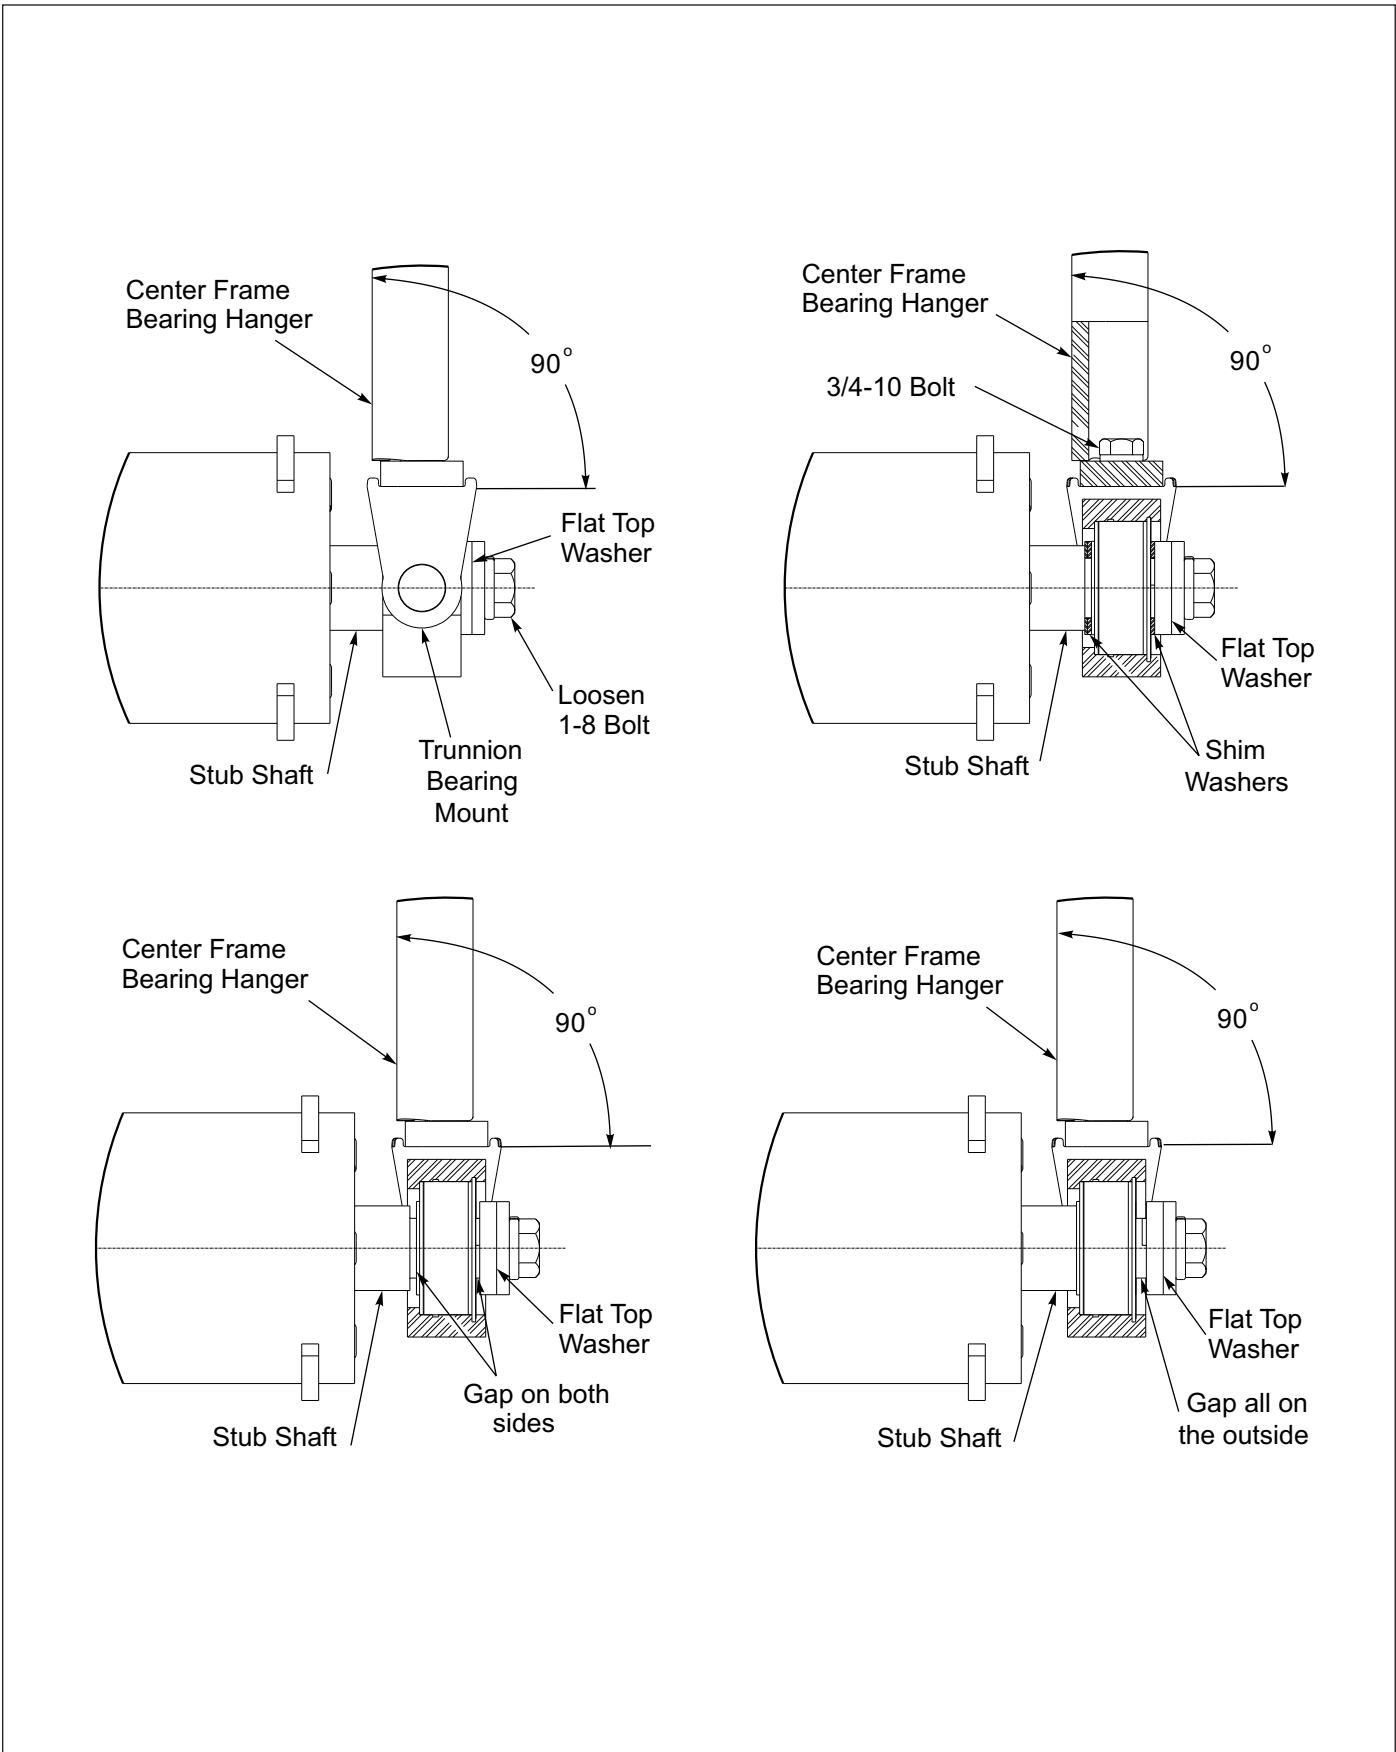

Figure 2-17: Trunnion Spacers
bearing around to have snap ring to inside. The bearing inner race is offset with respect to the trunnion bosses by 1/32". By installing bearings with snap rings in versus out, 1/16" difference can be made up at assembly if needed. **See Figure 2-17.**
5. Look at each Trunnion Bearing Mount to make sure that it is sitting perpendicular Wing Frame Bearing Hanger. If not adjust the Shim Washers accordingly, for each side there are two 11ga and one 14ga Shim Washers. Shim Washers can be all three on the inside between the Stub Shaft shoulder and the Trunnion Bearing, all three can be on the outside between the Trunnion Bearing and Flat Top Washer, or a combination on either side, but all three must be used to minimize the gap. **See Figure 2-17.**